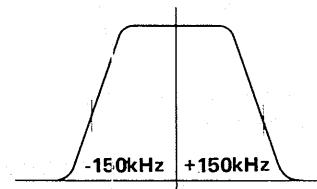

Fig. 4
5. Align core of T1 for maximum gain and symmetry to obtain scope pattern as in Fig. 4.